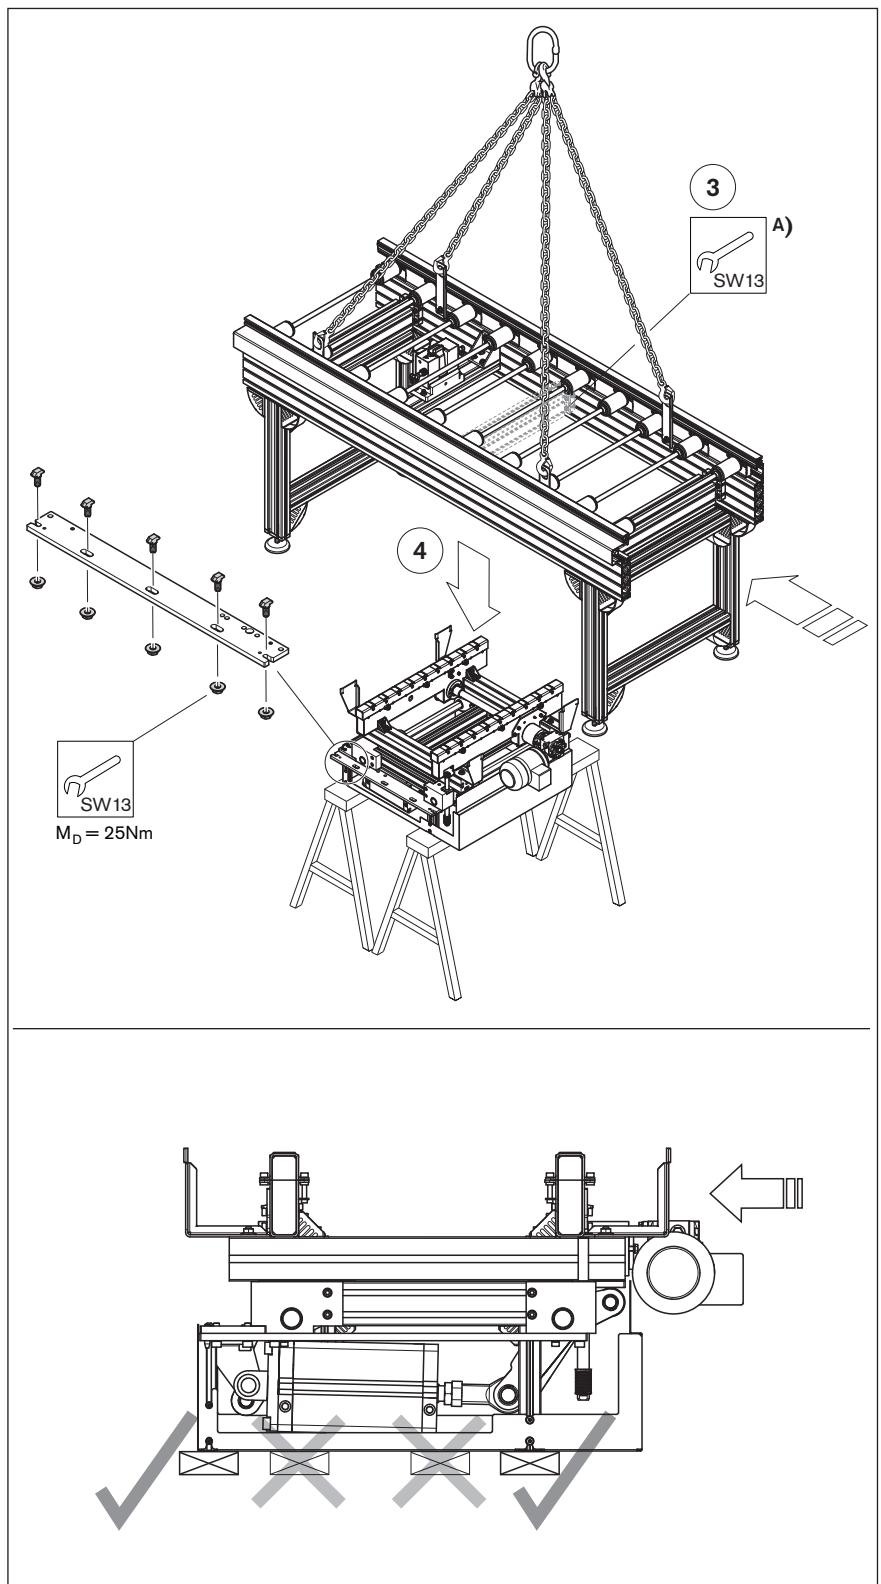

Fig. 61 HQ 5, assembly from the bottom (3/4)
3. If necessary, remove cross connectors for the conveyor unit in the area where the HQ 5 is to be installed (Fig. 61: A).